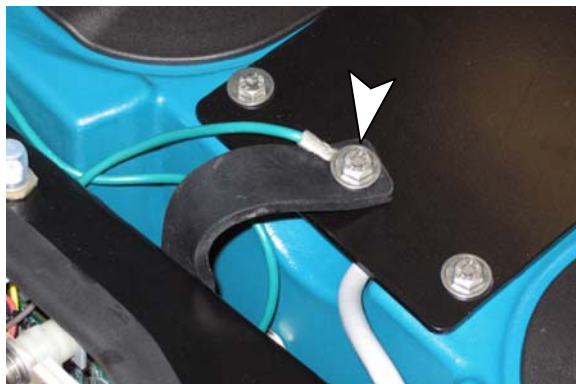

Fig. 7
12. Re-attach ground wire and strap to metal plate as shown (Figure 7).